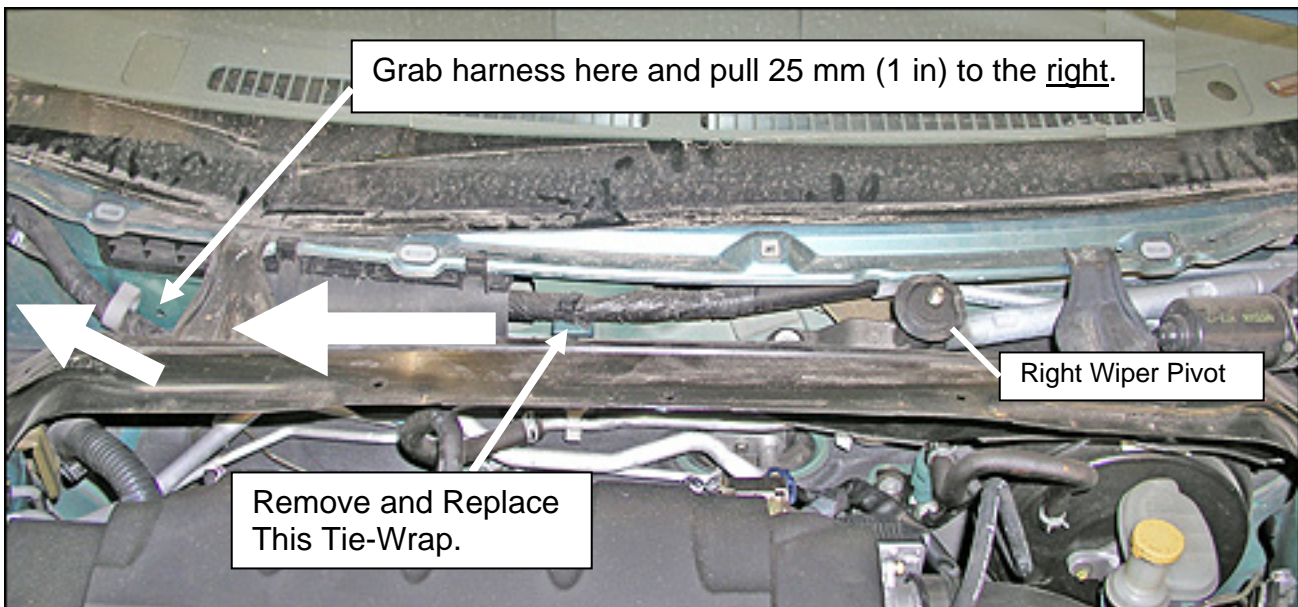

Figure 4
- If needed, cut the tie-wrap shown in Figure 4, pull the harness towards the right side (passenger side) of the engine compartment about 25 mm (1 inch). Then use a new tie-wrap to re-secure the harness in place.